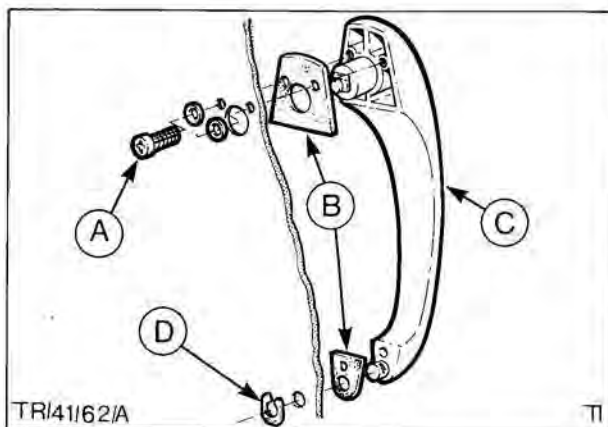

Fig. 46. Sliding door exterior handle assembly
1. Pull circlip from handle lower spigot, Fig. 46 'D'.
2. Remove two screw and washer assemblies securing upper part of handle to door, Fig. 46 'A'.
4. Locate mounting pads Fig. 46 'B', on upper and lower parts of handle.